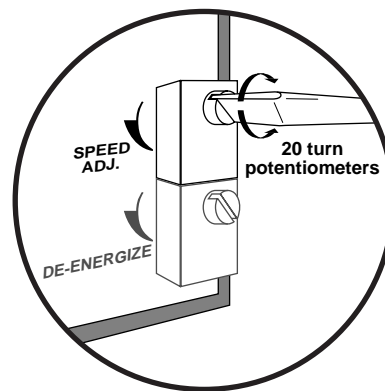

Figure 14
2. Turn the **SPEED ADJUST** pot fully clockwise 20 turns (**Figure 14**).
6. Adjust the **DE-ENERGIZE** pot clockwise until the **ENERGIZE** LED goes "OFF" and the relay has dropped out (**Figure 14**).